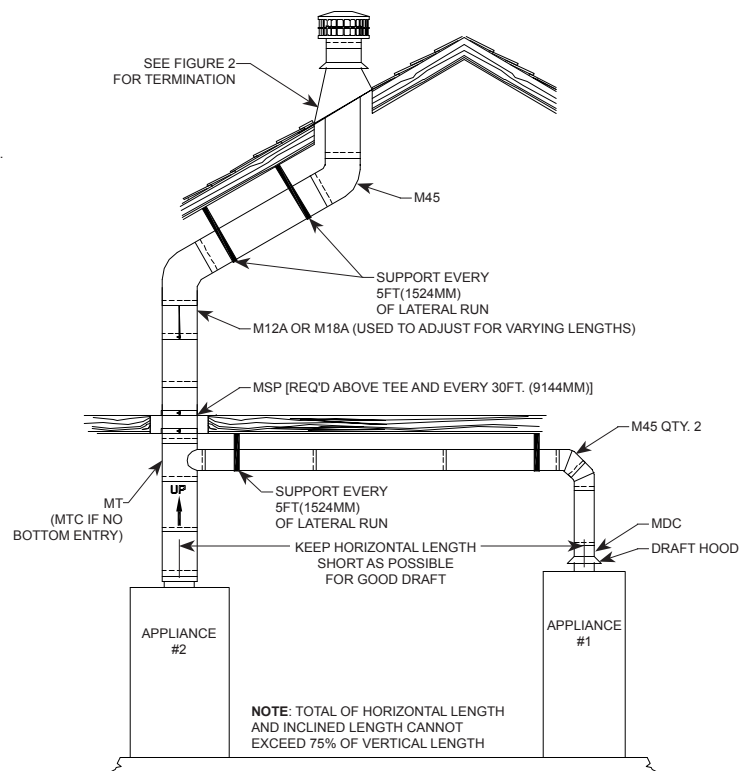

FIG. 3
4. If the installation requires offsets, elbows are available. The inclined run (distance between elbows) must be supported every 5 feet (1542mm). Plumbers straps are acceptable. Total lateral and horizontal length shall not exceed 75 percent of total vertical height (See **FIG. 3**).
5. It is acceptable to use a tee (MT) to multi-vent appliances into a common vent (See **FIG. 3**). A support plate (MSP), or other method, is required to support the gas vent weight above the tee. The horizontal run of the vent must be supported every 5 feet (1524mm). If no vent enters the bottom of the tee, a tee cap (MTC) is required to close the tee.
6. Because the available lengths of vents may not meet your installation needs, an adjustable vent section (M18A) may be needed. The male end of the adjustable section engages in the same manner as the vent section, the female end opens to accept the male end of the vent section, then must be secured by tightening the clamp of the adjustable section (See **FIG. 3**).
7. If the vent system must increase in size due to vent capacity, use an appropriate increaser (MI). The increaser is installed the same as any vent section.